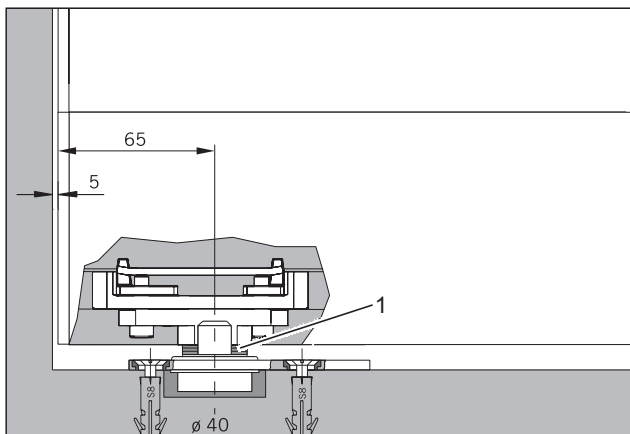

Fig. 5 Installing the floor pivot
1. Align the floor pivot according to the system drawing spaced 65 mm from the door and 5 mm from the folding sliding wall (Fig. 5). Look for any differing measurements in the included system drawing.
6. Wear protective glasses. Drill the middle of the floor pivot at least 15 mm deep using a 40-mm hole saw (Fig. 5).
8. Insert the dowels into the 8-mm holes (Fig. 5).
12. If necessary, correct the floor pivot height. To do so, put the included washers (3 units, 1 mm thick) under the floor pivot (Fig. 5/1).